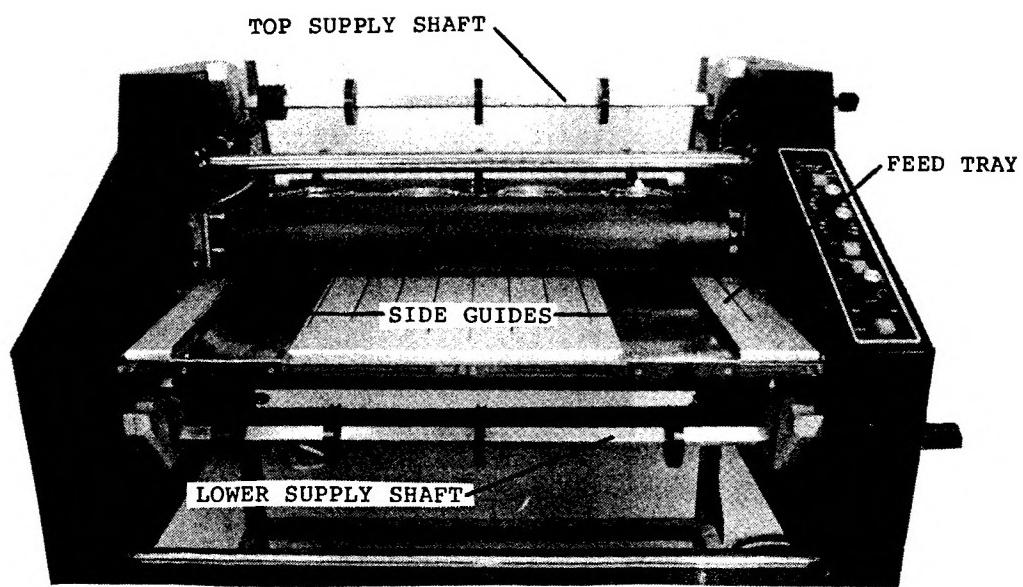

Figure 4.0.1
- 1) Loosen the feed tray lock screw and lift the feed tray from the laminator. See figure 4.0.1.
- 2) Cut the film passing through the laminator from the film supply roll. Move both roller release levers (See figure 4.0.1) to the "GAP" position and remove the film web from the laminator by pulling out the front.
- 4) Loosen the four (4) supply shaft release screws (See figure 4.0.1) until they come free. Firmly grasp each film tension knob (located on the right side panel) and pull outward until it disengages from the supply shaft.
When a slitter adjustment is made, the slitter blades should be disengaged by rotating the slitter control knob to the disengaged position. See figure 4.0.1. To adjust the slitters, loosen the two knurled thumb screws, on the blade holder, and move the blade holder in the direction required. Tighten the two knurled thumb screws to lock the blade holder in position.